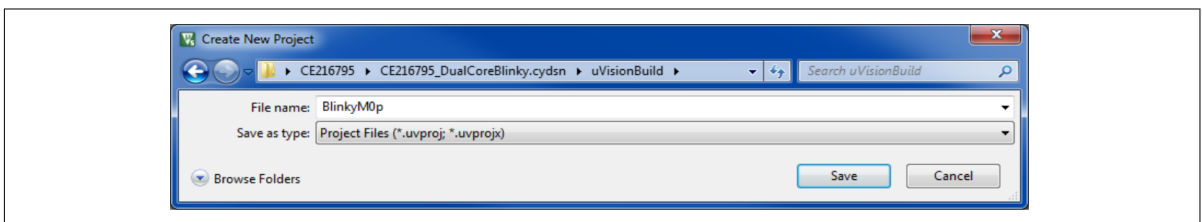

Figure 14 Create a μ Vision project for CM0+
Recommended: name the project based on the original PSoC™ Creator project name and the target CPU. For example, for the CE216795 dual-core blinky project, create a μ Vision project `BlinkyM0p` for the CM0+ CPU, as Figure 14 shows:
Recommended: name the project based on the original PSoC™ Creator project name and the target CPU. For example, for the CE216795 dual-core blinky project, create μVision project BlinkyM4p; see Figure 14. Configure the project in the same manner as the CM0+ project, with the following differences:
- The CM4 project must be in the same folder as the CM0+ project; in this case, μVisionBuild. See Figure 14